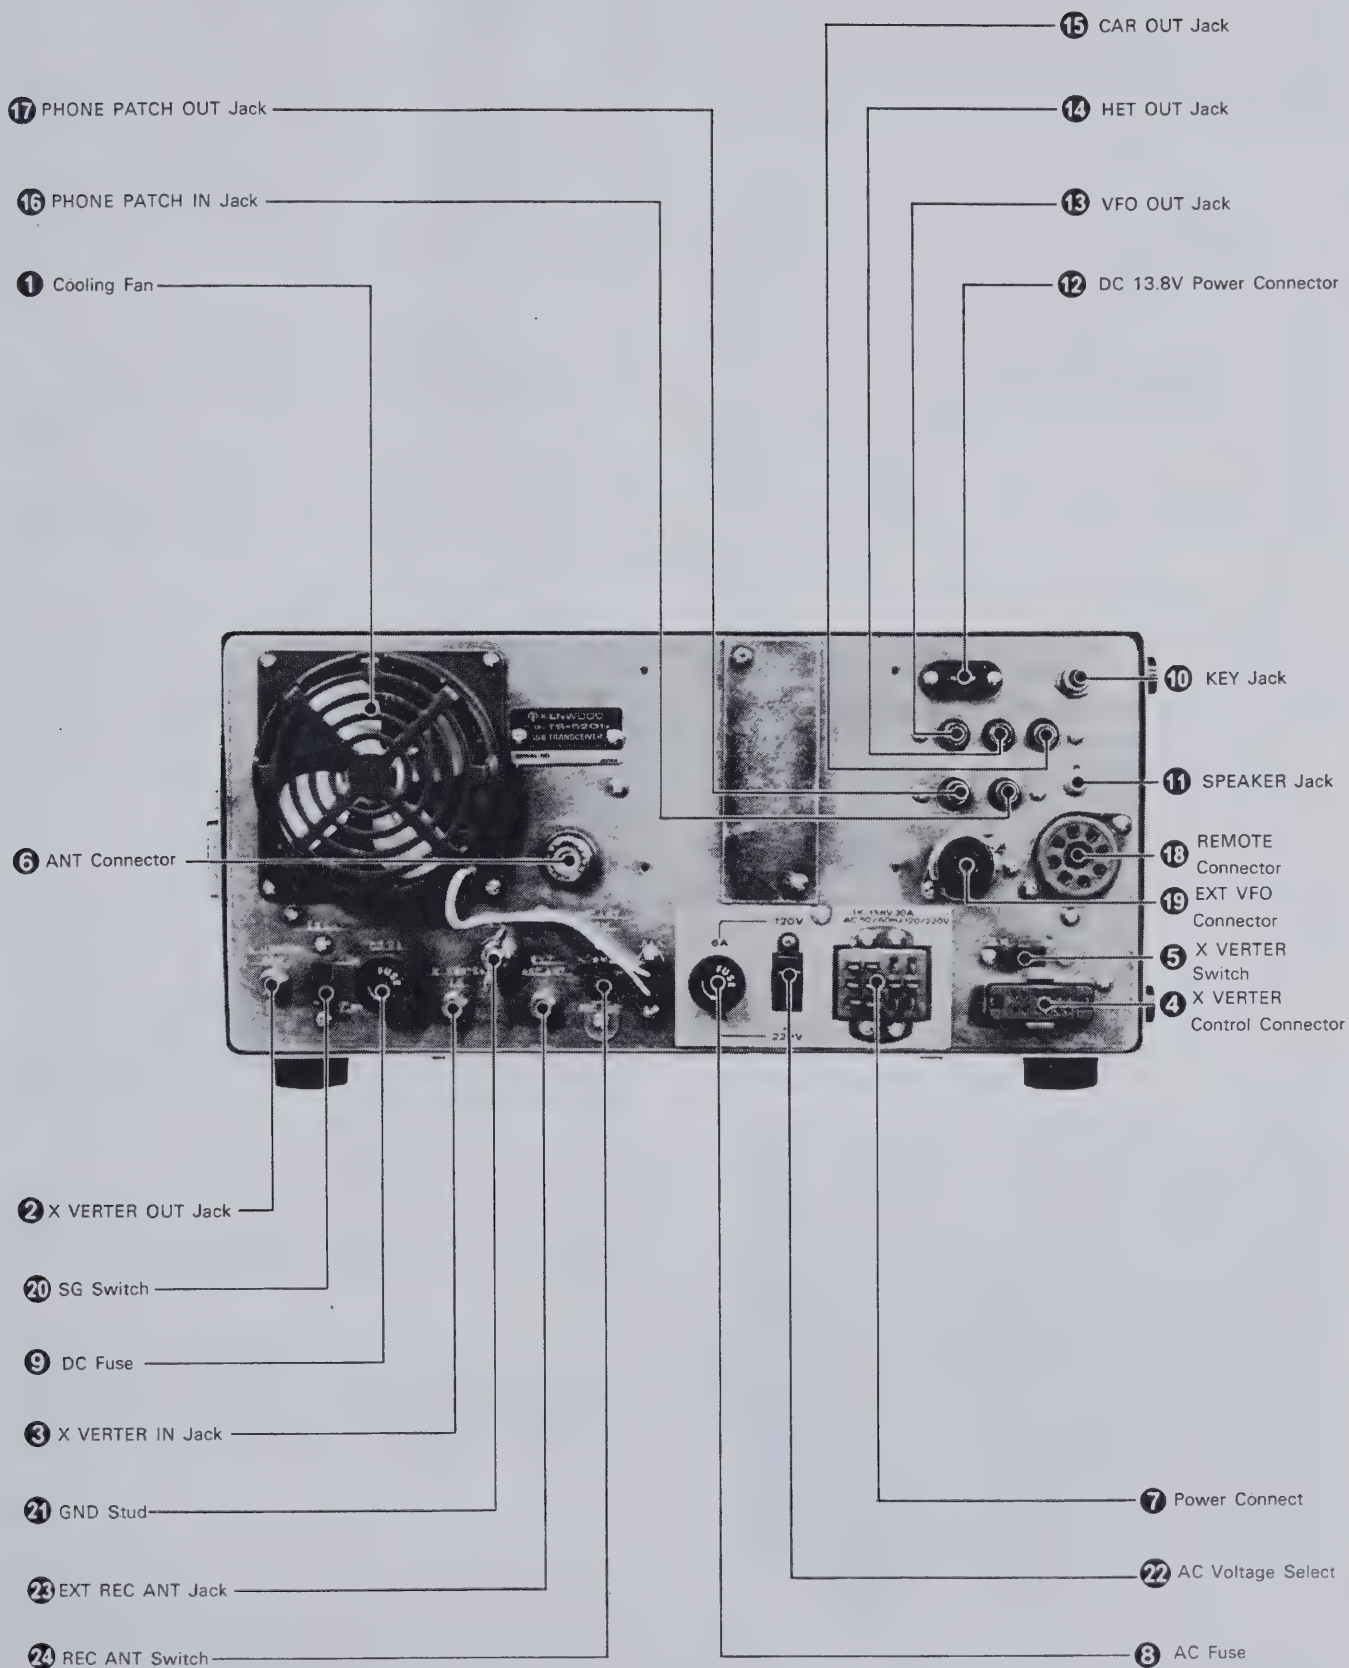

Fig. 7 Rear Panel Controls
■ EXTERNAL VFO CONNECTOR (19 on Figure 7)
■ SG SWITCH (20 on Figure 7)
■ GND (Ground) LUG (21 on Figure 7)
■ AC VOLTAGE SELECT SWITCH (22 on Figure 7)
■ EXTERNAL RECEIVER ANTENNA JACK (23 on Figure 7)
■ RECEIVER ANTENNA SWITCH (24 on Figure 7)
■ AC FUSE (8 on Figure 7)
■ DC FUSE (9 on Figure 7)
■ KEY JACK (10 on Figure 7)
■ SPEAKER JACK (11 on Figure 7)
■ 13.8V DC CONNECTOR (12 on Figure 7)
■ VFO OUT JACK (13 on Figure 7)
HET OUT JACK (14 on Figure 7)
CAR OUT JACK (15 on Figure 7)
■ PHONE PATCH IN JACK (16 on Figure 7)
■ PHONE PATCH OUT JACK (17 on Figure 7)
■ REMOTE CONNECTOR (18 on Figure 7)
3.3 REAR PANEL CONTROLS (See Figure 7)
■ COOLING FAN (1 on Figure 7)
■ TRANSVERTER OUT JACK (2 on Figure 7)
■ TRANSVERTER IN JACK (3 on Figure 7)
■ TRANSVERTER CONNECTOR (4 on Figure 7)
■ X VERTER SWITCH (5 on Figure 7)
■ ANTENNA CONNECTOR (6 on Figure 7)
■ POWER SUPPLY CONNECTOR (7 on Figure 7)